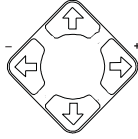

Figure 23: Navigation Control Keys
- Using the navigation control keys on the infra-red remote control transmitter (see Figure 42), to fine tune the zoom position (that is, to slowly zoom-in at a location on the screen)³, as Figure 23 illustrates